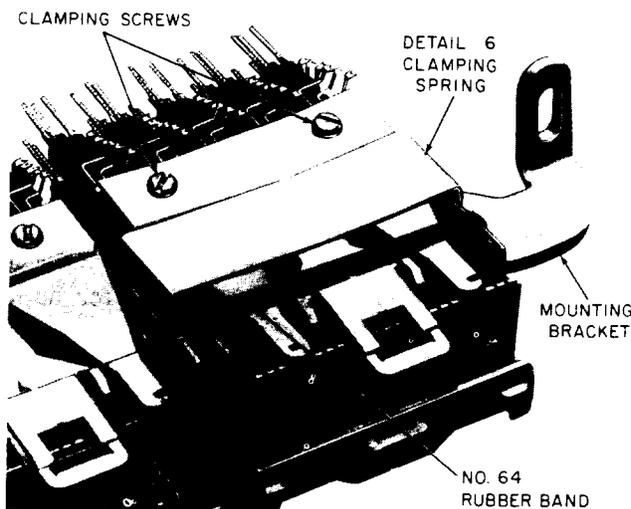

Fig. 20—Clamping Spring and No. 64 Rubber Band in Place on Half of Relay
**3.57** Slip a clamping spring (detail 6) with the open side facing to the right over the defective unit and push back with screwdriver until clamping spring comes to rest against clamp plate, as shown in Fig. 20.
**3.73** Slip a clamping spring (detail 6), with the open side facing to the right, over the replacement unit and push back with screwdriver until clamping spring rests against the clamp plate. See Fig. 20.